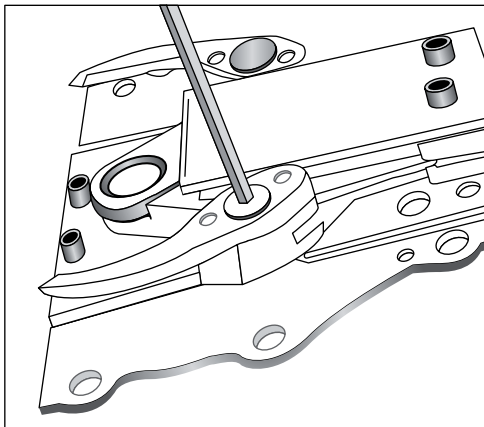

Figure 15
3. Loosen screws with 3 mm Allen wrench. (See Figure 15)